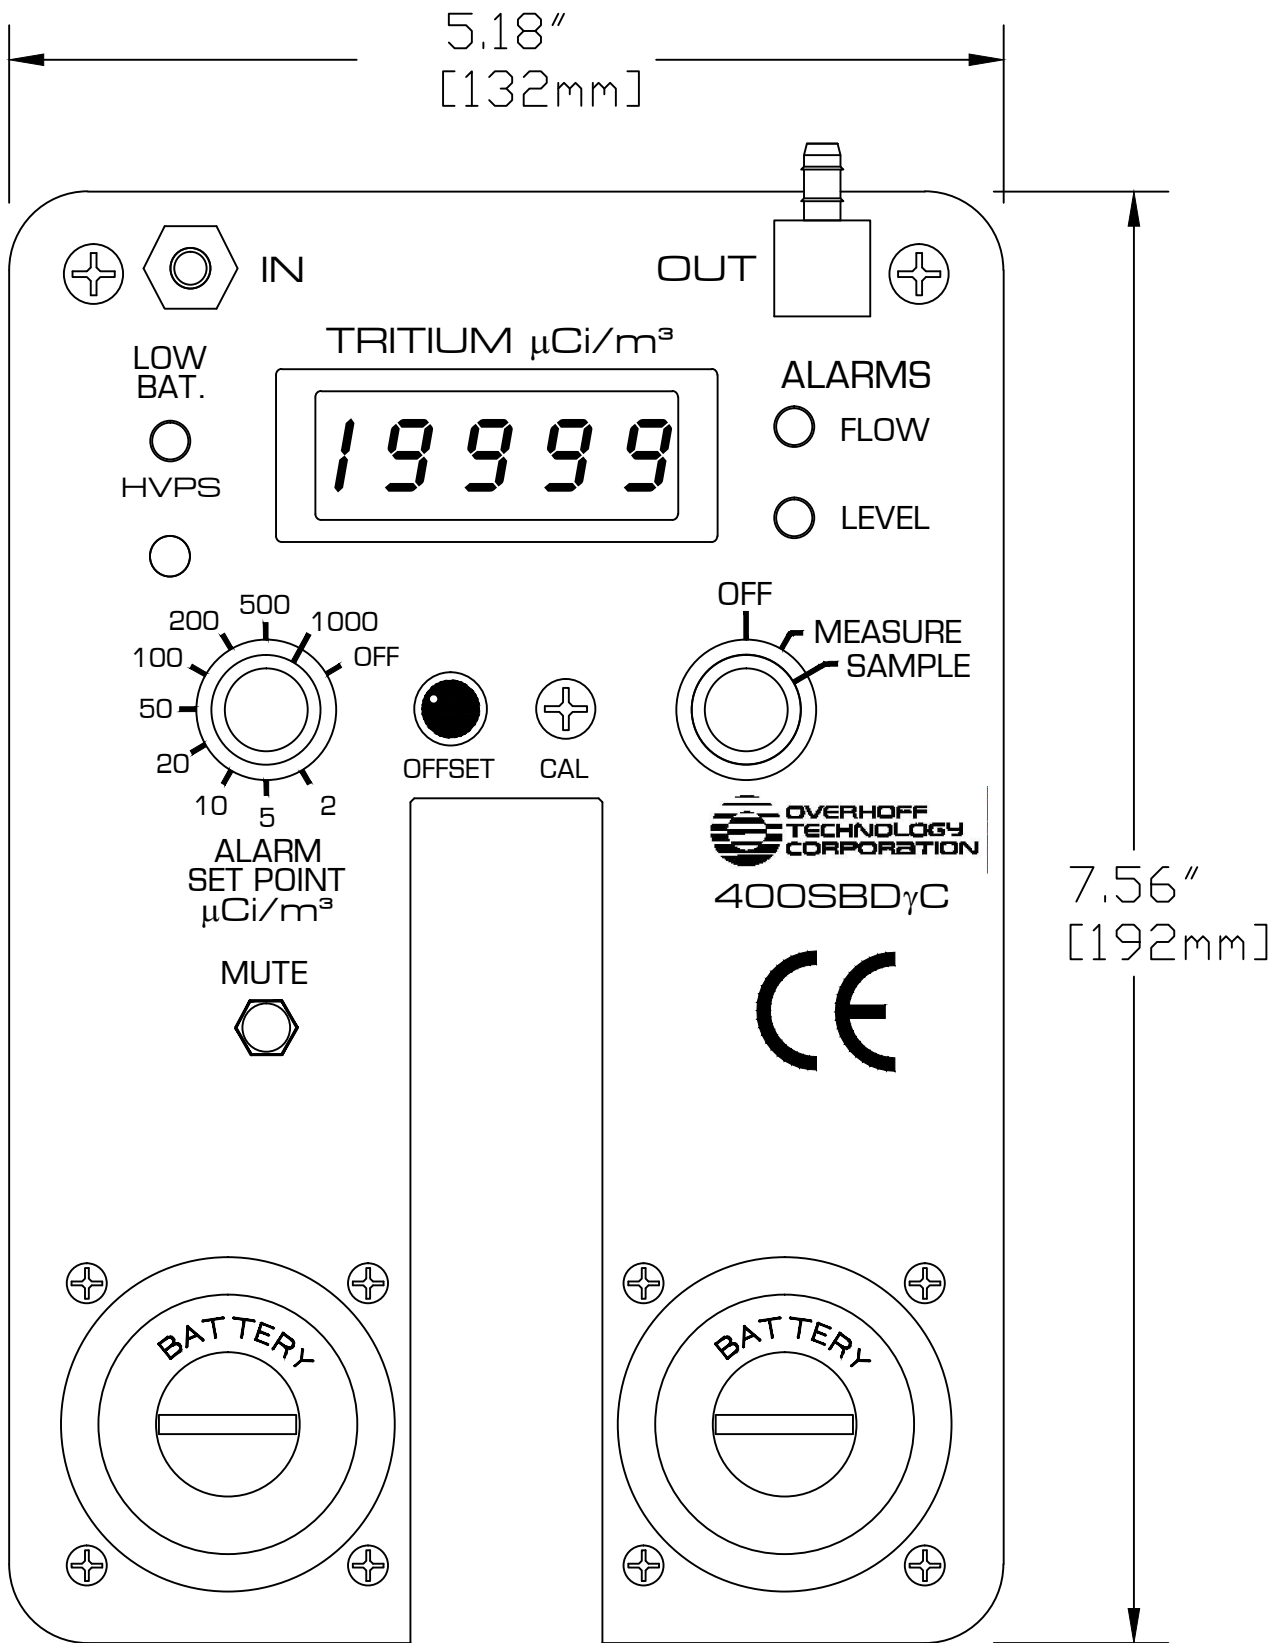

FIGURE 1
3. Adjust the "offset" compensation potentiometer as required. The location is shown in Figure 1.